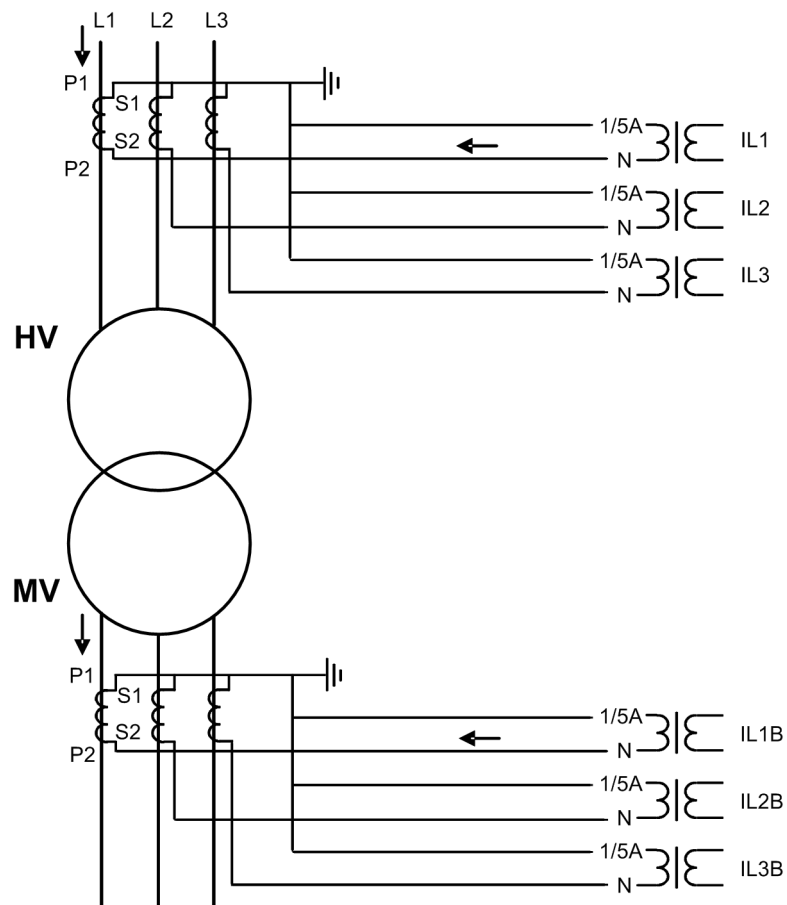
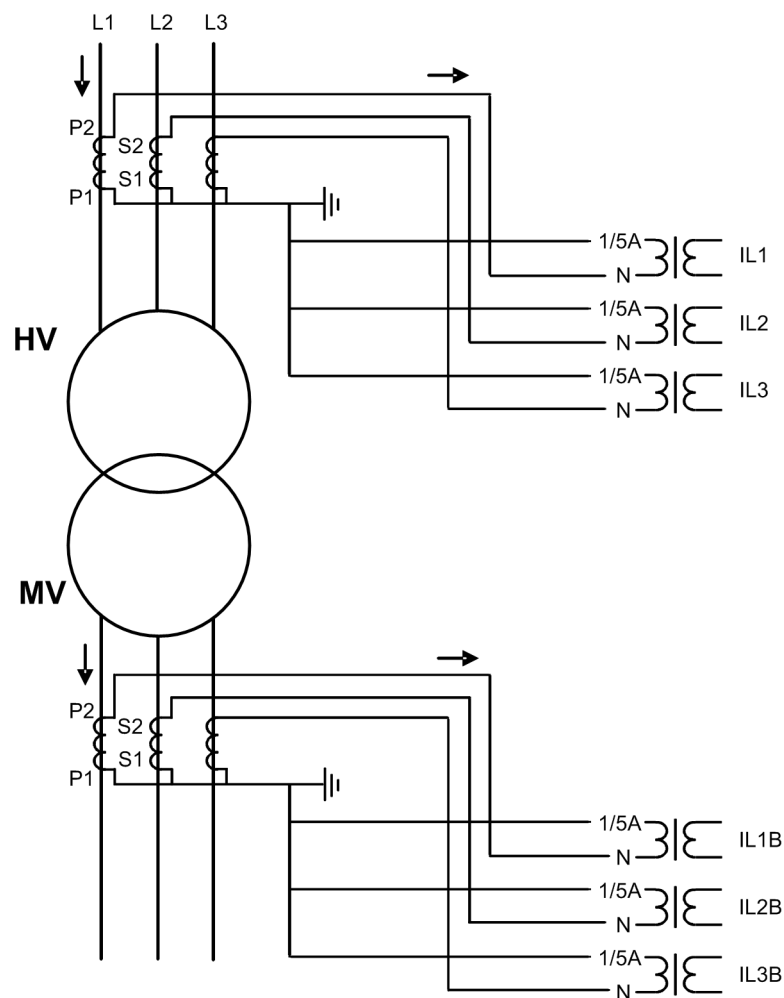

Figure 272: Connection of current transformers of Type 2 and example of the currents during an external fault
Figure 273: Alternative connection example of current transformers of Type 2
- If the positive directions of the winding 1 and winding 2 protection relay currents equate, the *CT connection type* setting parameter is "Type 2". The connection examples of "Type 2" are as shown in Figure 272 and Figure 273.